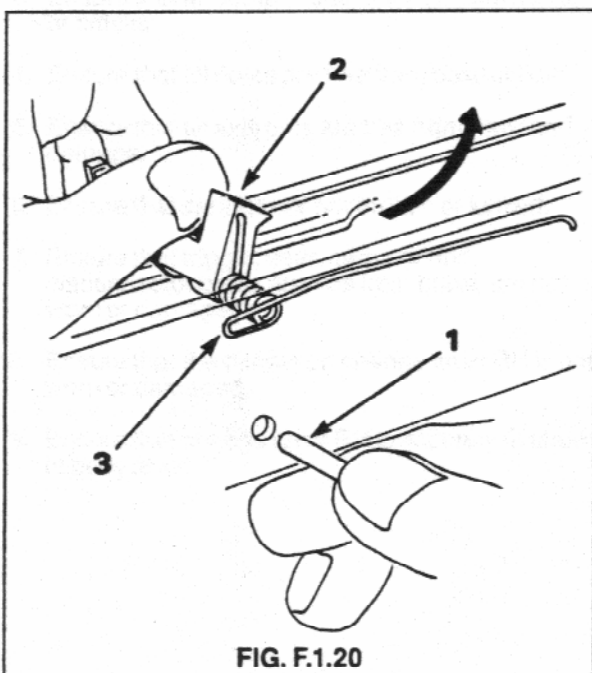

FIG. F.1.20
20. Withdraw the disconnecter axis pin and remove the disconnecter and the disconnecter spring. See Fig. F.1.20.